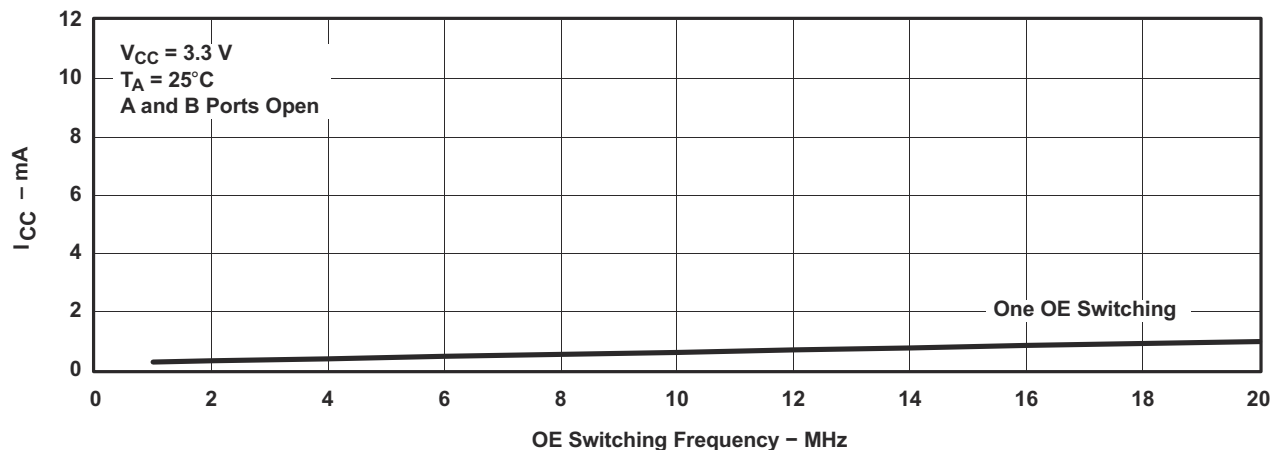

图 9-2. Typical I_{CC} vs OE Switching Frequency
(1) V_{IN} and I_{IN} refer to control inputs. V_I , V_O , I_I , and I_O refer to data pins.
(2) All typical values are at $V_{CC} = 3.3 \text{ V}$ (unless otherwise noted), $T_A = 25^\circ\text{C}$.
(3) For I/O ports, the parameter I_{OZ} includes the input leakage current.
(4) This is the increase in supply current for each input that is at the specified TTL voltage level, rather than V_{CC} or GND.
(5) This parameter specifies the dynamic power-supply current associated with the operating frequency of a single control input (see Figure 9-2).
(6) Measured by the voltage drop between the A and B terminals at the indicated current through the switch. ON-state resistance is determined by the lower of the voltages of the two (A or B) terminals.